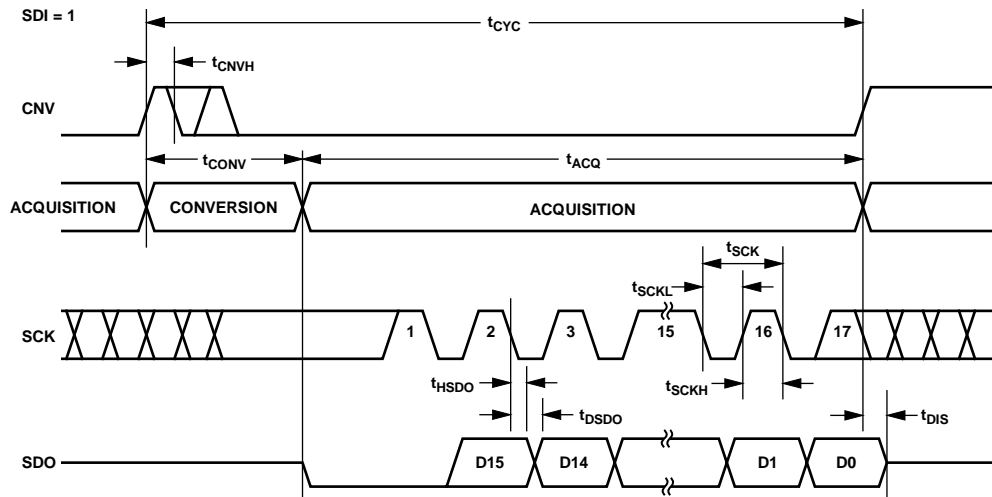
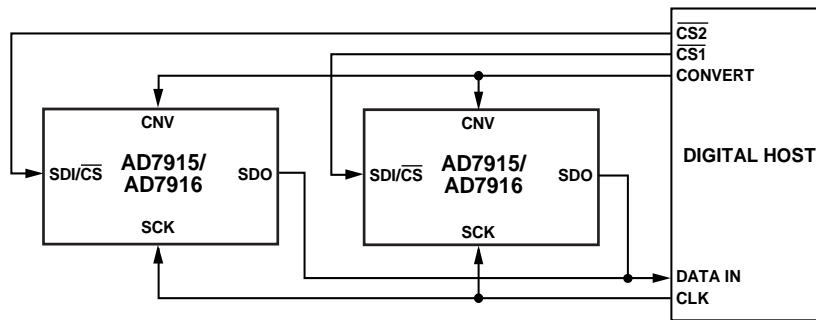
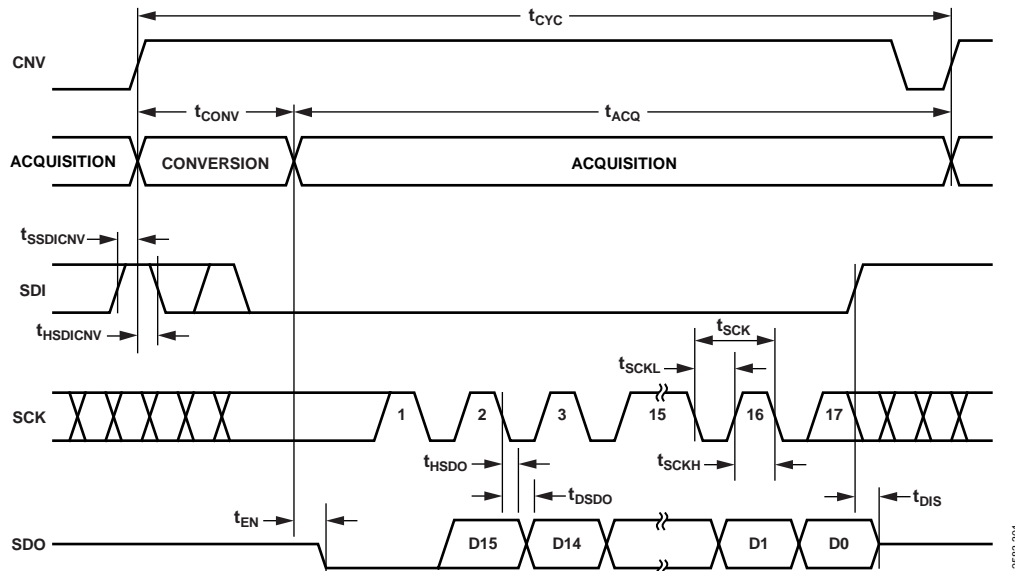
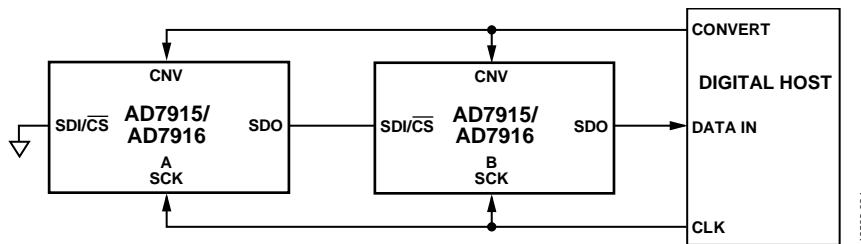

Figure 37. 3-Wire \overline{CS} Mode with Busy Indicator Serial Interface Timing (SDI High)
Figure 38. $\overline{\text{CS}}$ Mode Without Busy Indicator, 4-Wire Connection Diagram
Figure 41. 4-Wire $\overline{\text{CS}}$ Mode with Busy Indicator Serial Interface Timing
Figure 42. Chain Mode Without Busy Indicator Connection Diagram
- in $\overline{\text{CS}}$ mode if CNV or SDI is low when the ADC conversion ends (see Figure 38 and Figure 42).
The connection diagram is shown in Figure 37, and the corresponding timing is given in Figure 38.
The connection diagram is shown in Figure 41, and the corresponding timing is given in Figure 42.